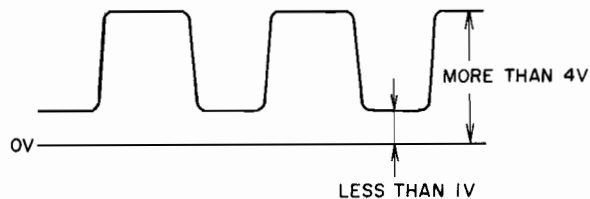

Fig. 62
- 3) Confirm the waveform on the Oscilloscope is as shown in Fig. 62.